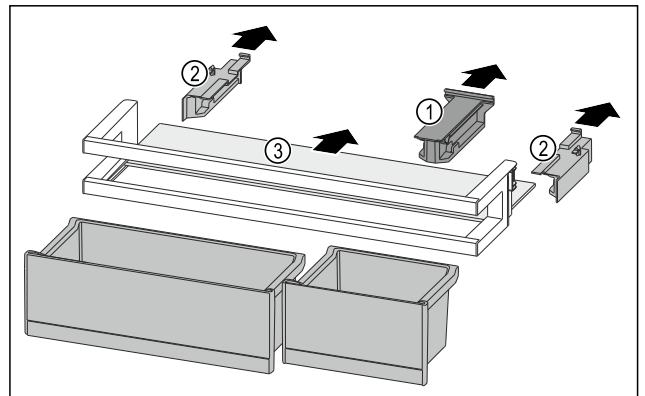

Fig. 202
- Pull off the holding part Fig. 202 (1).
- Pull off the side parts Fig. 202 (2).
- Remove the shelf Fig. 202 (3).